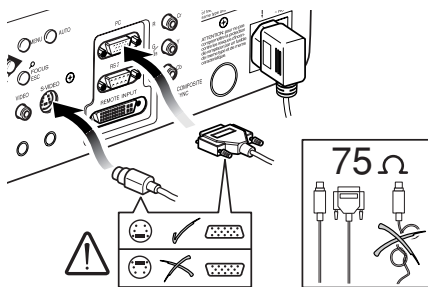

Fig. 18
- With exception of coaxial RCA/Phono type connectors, always double-check that the plug is inserted the correct way round to avoid damaging the plugs or the sockets on the projector (Fig. 18).